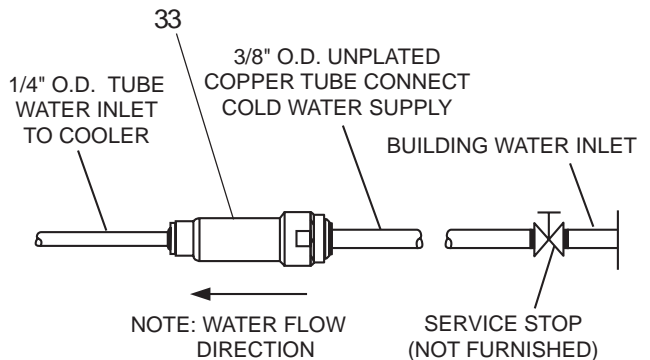

Figure 17 – Water Supply Connections
5. **Make water** supply connections from service stop to the 3/8" O.D. unplated copper tube coming out of the strainer. Turn on water supply and check for leaks (See Figure 17). Newly installed water supply line should be insulated after leak check is completed.
7. **Make water** supply connections from service stop to the 3/8" O.D. unplated copper tube coming out of the strainer. Turn on water supply and check for leaks (See Figure 17). Newly installed water supply line should be insulated after leak check is completed.